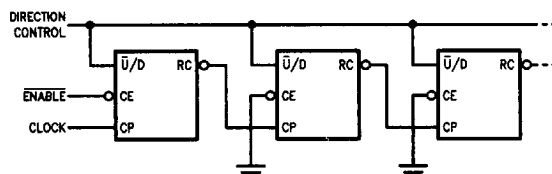
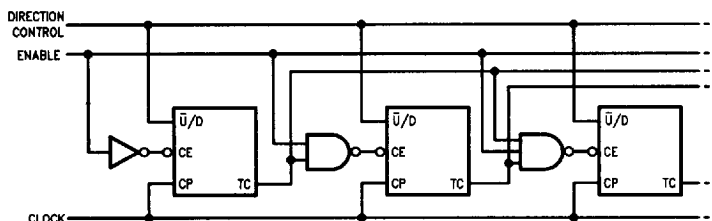

FIGURE 1. n-Stage Counter Using Ripple Clock
FIGURE 3. Synchronous n-Stage Counter with Gated Carry/Borrow
The TC signal is also used internally to enable the Ripple Clock (RC) output. The RC output is normally HIGH. When \overline{CE} is LOW and TC is HIGH, the RC output will go LOW when the clock next goes LOW and will stay LOW until the clock goes HIGH again. This feature simplifies the design of multistage counters, as indicated in Figures 1 and 2. In Figure 1, each RC output is used as the clock input for the next higher stage. This configuration is particularly advantageous when the clock source has a limited drive capability, since it drives only the first stage. To prevent counting in all stages it is only necessary to inhibit the first stage, since a HIGH signal on \overline{CE} inhibits the RC output pulse, as indicated in the RC Truth Table. A disadvantage of this configuration, in some applications, is the timing skew between state changes in the first and last stages. This represents the cumulative delay of the clock as it ripples through the preceding stages.
The configuration shown in Figure 3 avoids ripple delays and their associated restrictions. The \overline{CE} input for a given stage is formed by combining the TC signals from all the preceding stages. Note that in order to inhibit counting an enable signal must be included in each carry gate. The simple inhibit scheme of Figures 1 and 2 doesn't apply, because the TC output of a given stage is not affected by its own \overline{CE} .